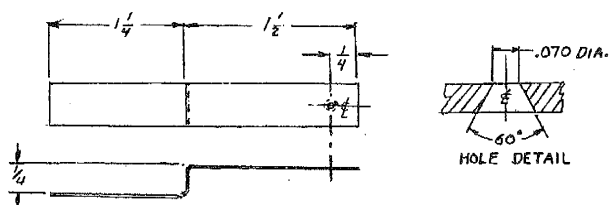
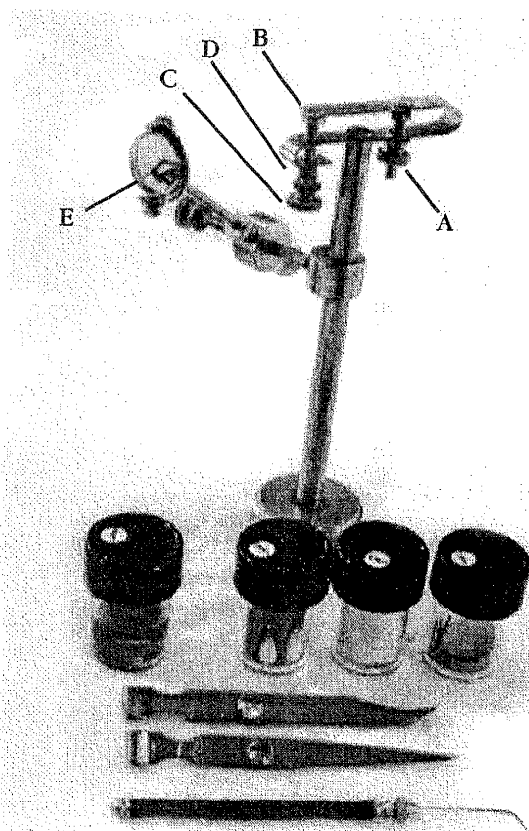

Fig. 5 Construction of a 'focussing' water drop microscope.
Fig. 6 Construction of the Hirsch Leeuwenhoek-inspired water drop microscope.
Concerning the liquid lens, there are avenues of investigation which may be worth pursuing, such as: 1. Transparent fluids with refractive indices and surface tensions other than that of water, such as glycerine and sodium silicate (water glass) 2. Fluids tinted blue, or with other colors to act as combined lenses and filters. This lens portion is a rounded, tapered hole in which the water drop is retained. (See Fig. 5) Drill a hole of about .070" dia. in a .031" thick metal sheet such as brass. Holes larger or smaller than .070" dia. may also be evaluated. With a countersink bit, form a 60 degree cavity flaring outward at the bottom of the hole to aid in producing drops with convex surfaces. Remove burrs which may have formed on both sides of the hole. Remove all dirt and greasy substances from the top and bottom areas around and in the hole after fabrication. Coat the area surrounding the hole with a thin film of water repellent, such as petroleum jelly. The film prevents 'wetting' of the surface area around the hole, assuring the sphericity of the water drop. Wipe off residue with tissue.
Carrying the water-drop microscope concept a step farther, we use Leeuwenhoek derived logic to emulate his timeless masterpiece. We fashion our version of a water-drop microscope from a length of brass strip, .375" wide x .031" thick x 6" long. A couple of bends gets the device looking like the illustration in Fig. 6. The dimensions shown are tentative and may be changed along with the configuration as the prototype is finalized. For the 'lens', we selected an opening 0.070" diameter, tapered and oriented as shown in detail in Fig. 5. Adjusting screw (A) acts as 'fine' focus, moving the water drop 'lens' in a vertical direction. The specimen holder, or stage (B), is actuated by coarse adjustment (C) to move vertically, serving to set the initial distance between the stage and the water-drop lens, and to rotate the specimen. A small diameter hole in the middle of the stage retains a pin (see detail) for holding small objects such as insects. The bend-back of the stage screw holder and the inclusion of a helical spring (D) to take up slack on the stage mount, complete the instrument. An auxiliary stage attachment along with self-sticking black and white stage covers are also provided.